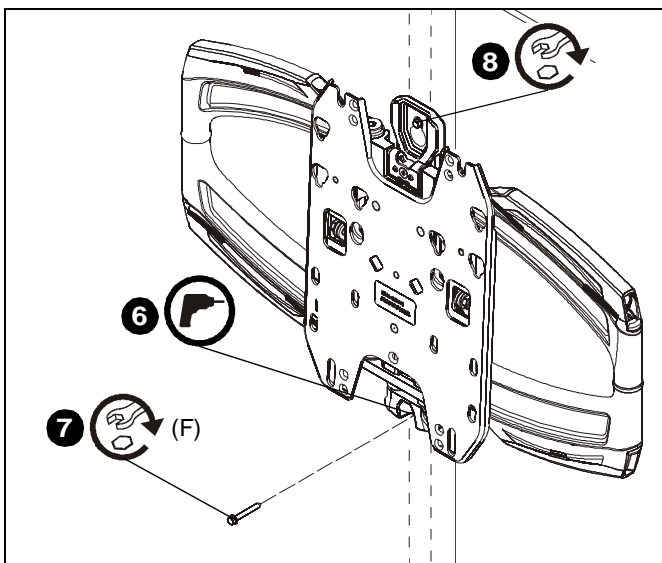

Figure 14
6. Mark and drill one 13/64" hole at lower mounting hole location. Hole should be 2" in depth. (See Figure 14)
7. Install 5/16-2 1/2" hex flange lag screw (F) into lower mounting hole to secure main assembly to wall. (See Figure 14)
8. Tighten top lag screw to fully secure mount to wall. (See Figure 14)